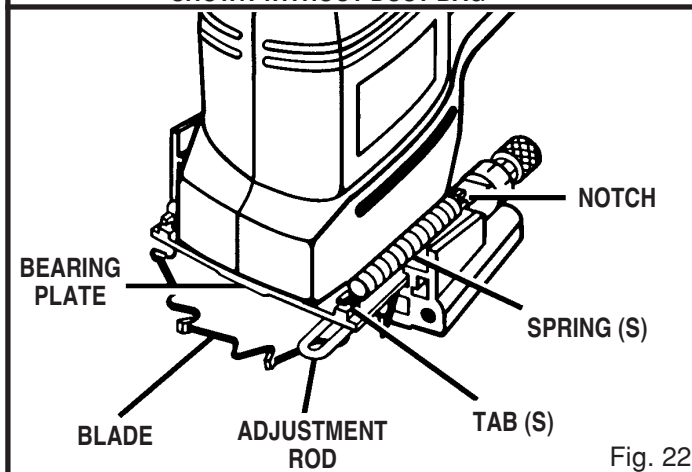

Fig. 22
- Using a pair of needle nose pliers, stretch and release springs from tabs on bearing plate. See Figure 22.
- Replace rear base assembly. Position adjustment rod in its proper place as shown in figure 22.